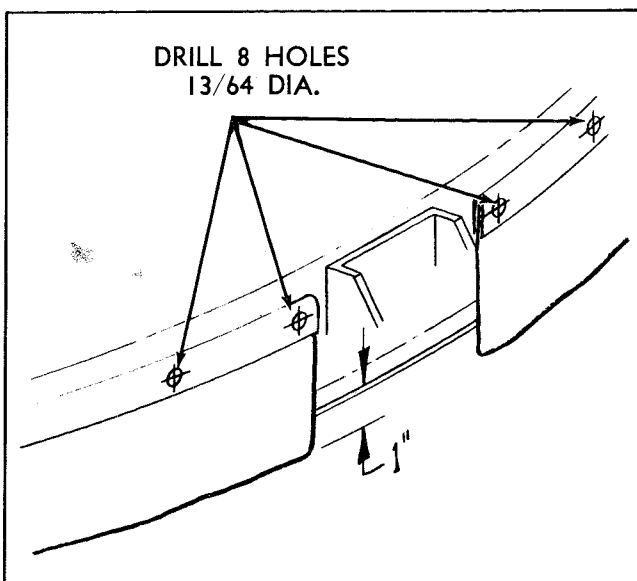

FIGURE 6
10. Clamp Mower Deck Covers to front edge of mower deck, ends against Roller Bracket with bottom edge 1" below mower deck. Using the deck covers as templates, mark and drill eight (8) $\frac{13}{64}$ Dia. holes for machine screws and fasten with Keps-Nuts. See Figure 6. Install with screw-heads inside mower.